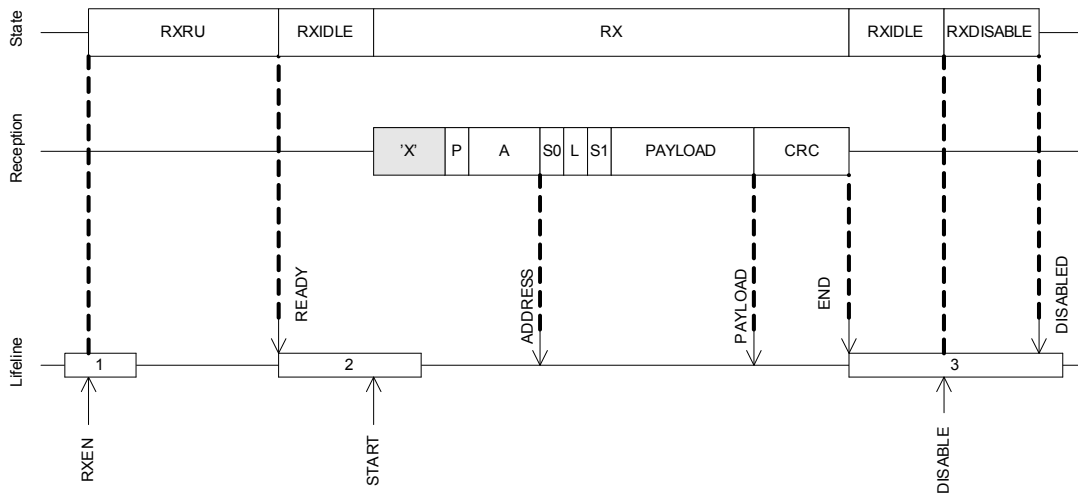
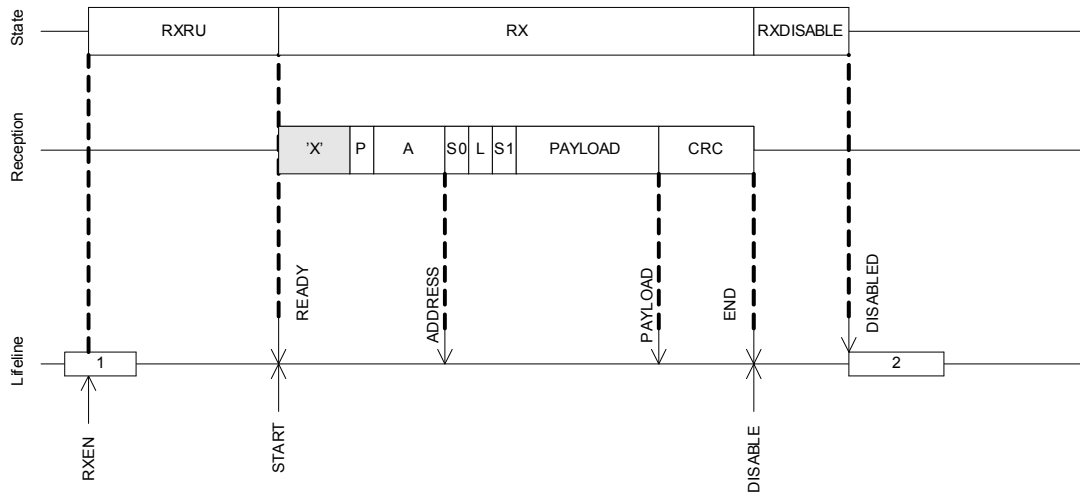

Figure 25 Receive sequence
Figure 26 Receive sequence using shortcuts to avoid delays
Before the RADIO is able to receive a packet, it must first ramp-up in RX mode. An RXRU ramp-up sequence is initiated when the RXEN task is triggered. After the radio has successfully ramped up it will generate the READY event indicating that a packet reception can be initiated. A packet reception is initiated by triggering the START task. As illustrated in **Figure 25** the START task can first be triggered after the RADIO has entered into the RXIDLE state.
Figure 26 on page 76 illustrates a single packet reception where the CPU manually triggers the different tasks needed to control the flow of the RADIO, that is, no shortcuts are used. If shortcuts are not used, a certain amount of delay, caused by CPU execution, is expected between READY and START, and between END and DISABLE. As illustrated in **Figure 26** the RADIO will be listening and possibly receiving undefined data, illustrated with an 'X', from START and until a packet with valid preamble (P) is received.
A slightly modified version of the receive sequence from **Figure 25 on page 75** is illustrated in **Figure 26** where the RADIO is configured to use shortcuts between READY and START, and between END and DISABLE, and therefore no delay is introduced.